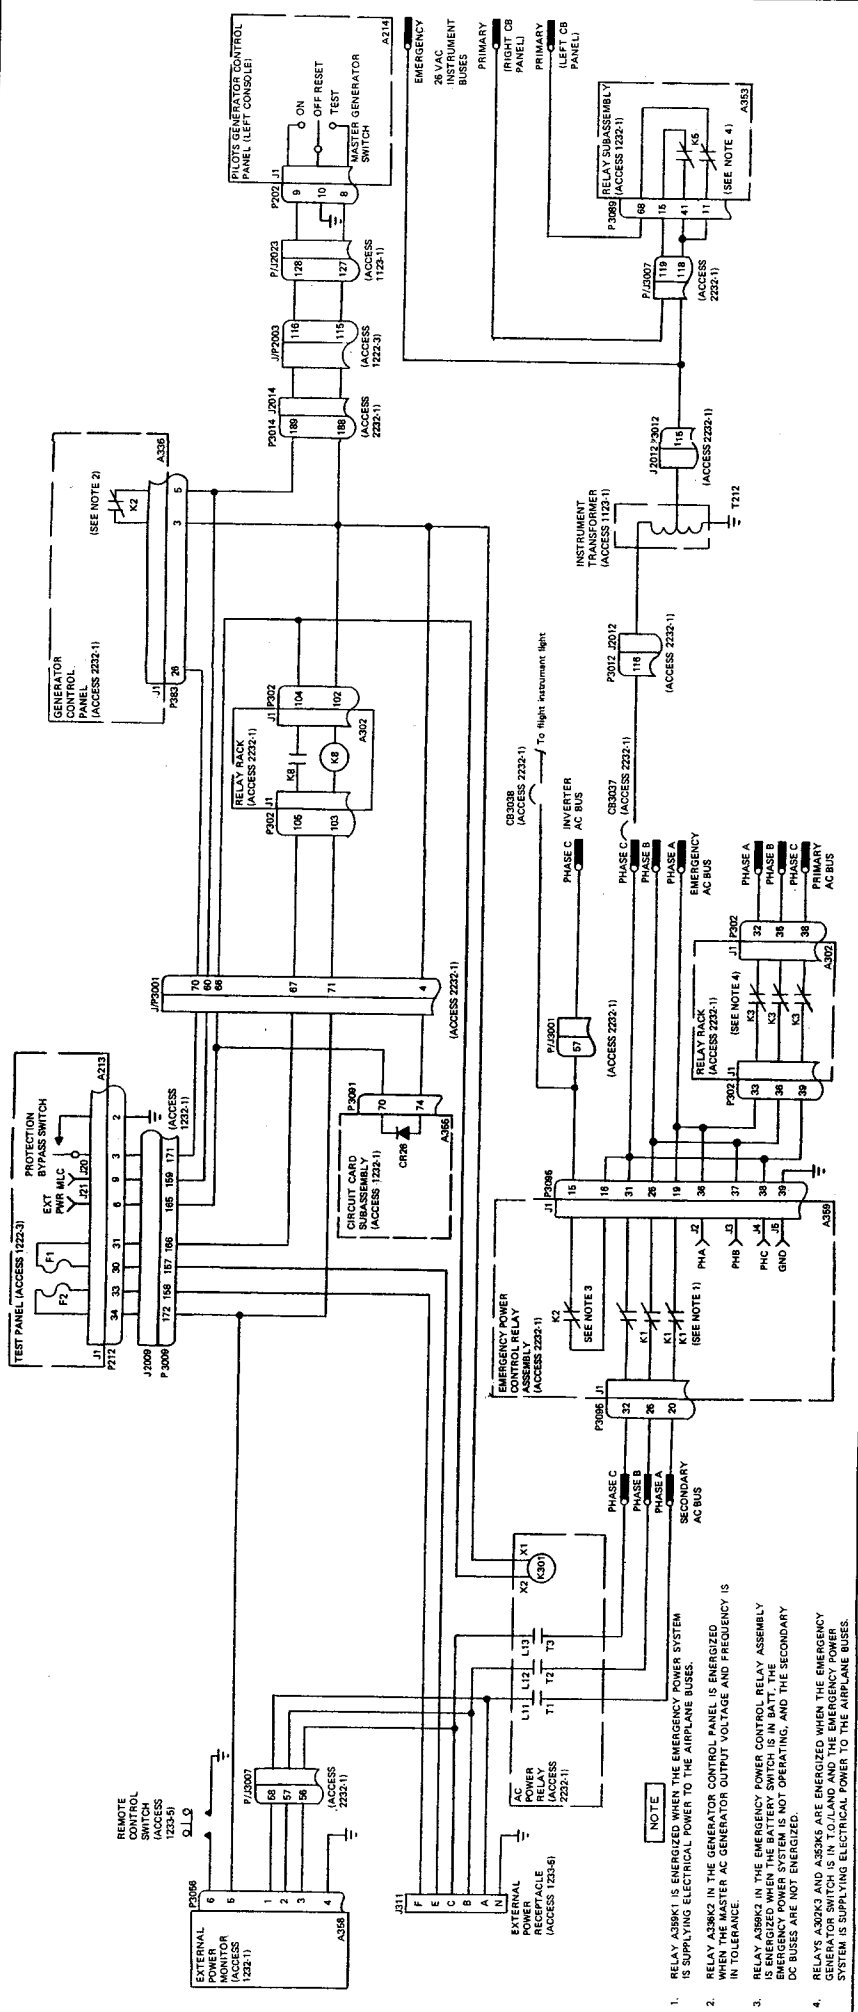

Figure 6-3. External Power Supply System Schematic Diagram (Airlanes Through AF69-6196)
6-11. TROUBLESHOOTING. (See figure 6-3 or 6-4.)
1. No indication of external power.	<p>a. Perform the following steps:</p> <ol style="list-style-type: none"> <li>1. Check external power supply for correct output. If output is correct, proceed to step 2. If output is incorrect, replace external electrical power supply.</li> <li>2. Press remote control switch momentarily. Press indicator lights test switch and check that caution and advisory lights come on. Release test switch. If lights do not come on, proceed to step 3.</li> <li>3. Check continuity of fuses F1 and F2 (figure 6-3 or 6-4 and paragraph 2-15A). If indication is correct, proceed to step 4. If indication is incorrect, replace defective fuse.</li> <li>4. Check for 28 volts dc at EXT PWR test jack of test panel (paragraph 2-15A). If indication is incorrect, perform step 5. If indication is correct, perform step 6.</li> <li>5. Replace ac power relay (paragraph 2-35).</li> <li>6. Place master generator switch in ON. Press indicator lights test switch and check that caution and advisory lights come on. If lights come on, replace master generator switch (paragraph 2-21). If lights do not come on, replace external power monitor (paragraph 6-16). If malfunction still exists, replace external power arming relay (paragraph 5-14).</li> </ol>